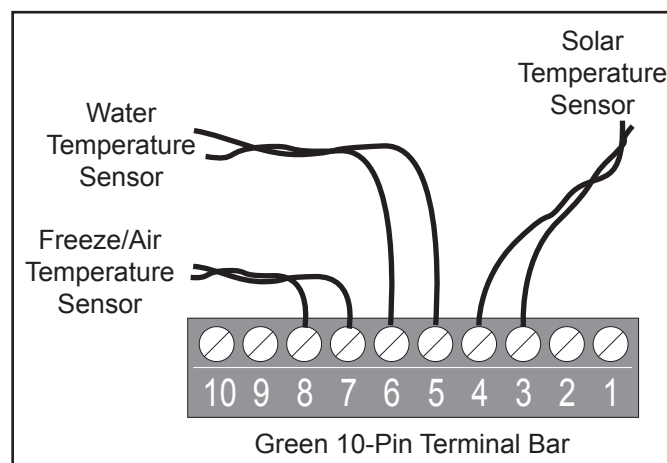

Figure 10. Temperature Sensor Wiring for a Pool/Spa Combination
4. Run the wire to the power center, through the low voltage raceway. Cut off excess wire. Strip the wire jacket back 15cm, then strip each wire 6mm. Connect sensor wires to the green, 10-pin terminal bar (see Figure 10).
- Run the 4-conductor cable from the power center to the location of the control panel (see Figure 10).